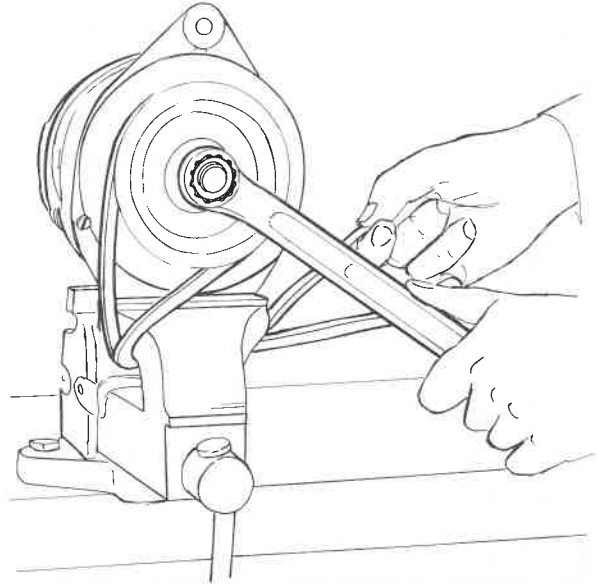

Fig. 32-8. Removing the pulley
1. Fit the alternator pulley and pulley belt according to Fig. 32-8 in a vice with soft jaws. Remove the nut and washer.